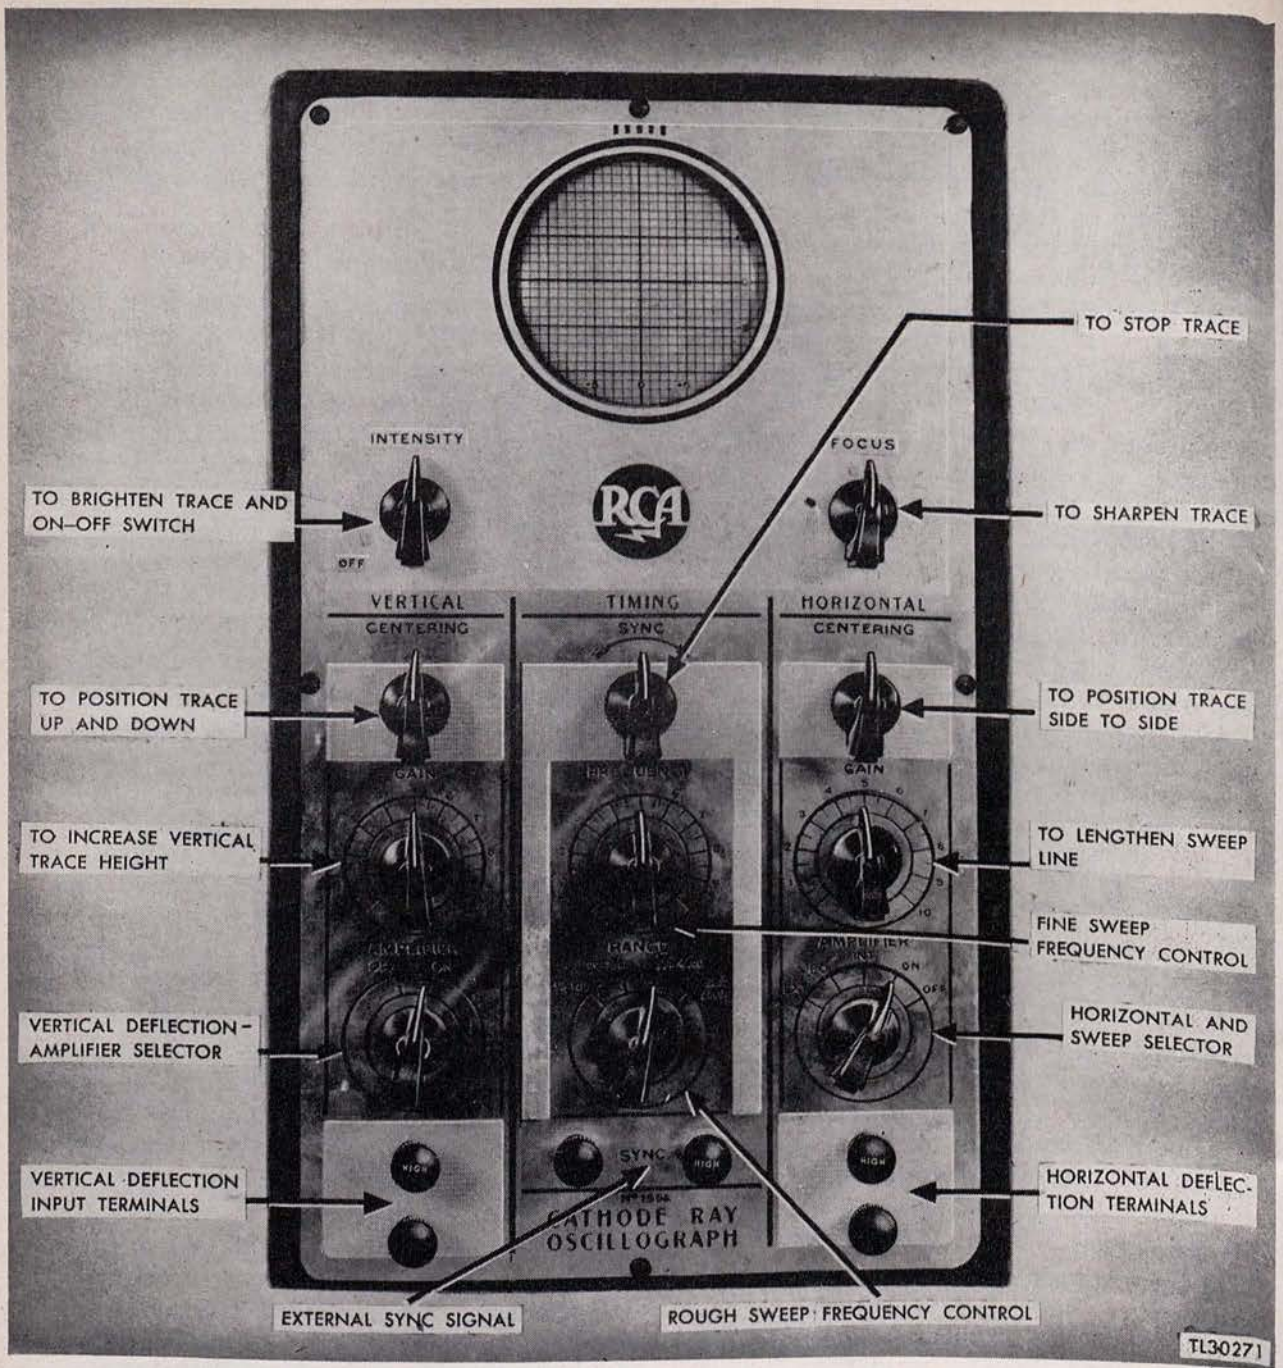

Figure 19. RCA oscilloscope, No. 155A.
b. SWITCHES AND CONTROLS (fig. 19). (1) The controls and switches of the RCA No. 155A oscilloscope are arranged in three vertical columns marked VERTICAL on the left, HORIZONTAL on the right, and TIMING in the center. The controls will be discussed according to their position in the columns. The INTENSITY control is located at the top of the VERTICAL column. It governs the brilliancy of the trace and serves as an ON-OFF switch. The FOCUS control is located at the top of the HORIZONTAL column, and is used to focus the trace on the screen. Vertical and horizontal centering is accomplished by the two controls above the respective GAIN controls in the VERTICAL and HORIZONTAL columns.
(2) Input to the vertical deflection plates is made through two terminals at the bottom of the VERTICAL column. The vertical deflection amplifier is controlled by the vertical-deflection amplifier selector marked AMPLIFIER. When this control is set to ON position, the amplifier is connected into the vertical-deflection plates system, and the amount of amplification is controlled by the dial marked GAIN. When the AMPLIFIER control is set to the OFF position, the amplifier is cut out of the circuit.
(3) The horizontal-deflection plates circuit is fed by two terminals at the lower right. The length of the time base, as well as any signal fed into the horizontal plates, is controlled by means of the GAIN control in the HORIZONTAL column. The switch governing the horizontal-deflection plates system has five positions. When this switch is set to EXT, the sweep voltage is supplied from an outside source and connected to the horizontal-deflection plates terminals. When the switch is set to 60, it selects a 60-cycle sine wave from the power supply. When set to INT, the regular saw-tooth sweep, generated within the unit and controlled by the two knobs labeled RANGE and FREQUENCY, is used. The length of sweep for sweep-selector switch positions EXT,